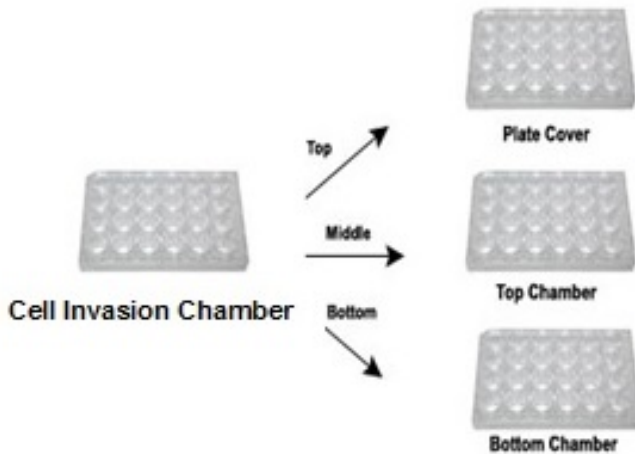

Figure 1. Cell Invasion plate: The cells are added to the Top Chamber and the Control Invasion Inducer or chemoattractant are added to the Bottom Chamber.
6. Under sterile conditions, disassemble the Cell Migration Chamber (Figure 1) and carefully remove the plate cover and the top chamber.